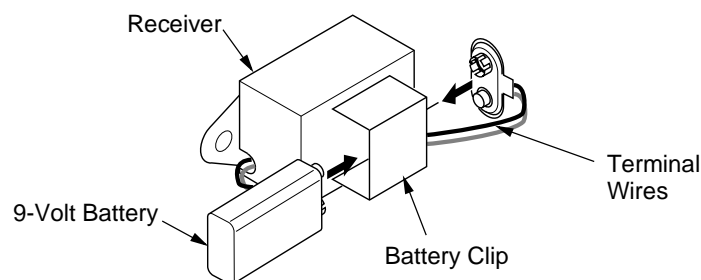

Figure 27 - Attaching Battery to Receiver
2. Locate the battery clip mounted on the back of the receiver (see Figure 27).
4. Attach the terminal wires to the battery (see Figure 27).